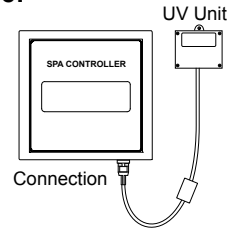

Figure 2
1. Turn the breaker to the spa OFF. We recommend that you drain your spa. Disconnect the CLEARARRAY System from the controller, Figure 2.
2. Once the UV lamp has cooled off remove the CLEARARRAY System enclosure cover (10) and gasket (9) by removing the four screws (11).